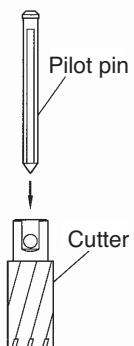

Fig. 11
(2) Insert a Pilot Pin, appropriate for the cutter size, into the cutter. (Fig.11)